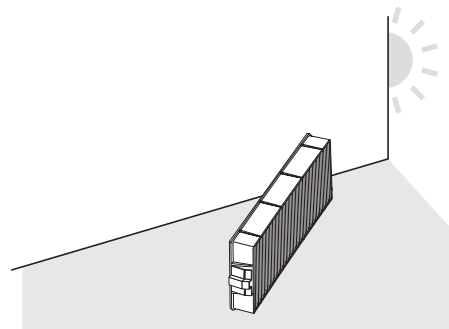

Fig. 2
**3) Pull out the air filter unit. (Fig. 2)**
**2) Dry the air filter unit. (Fig. 2)**